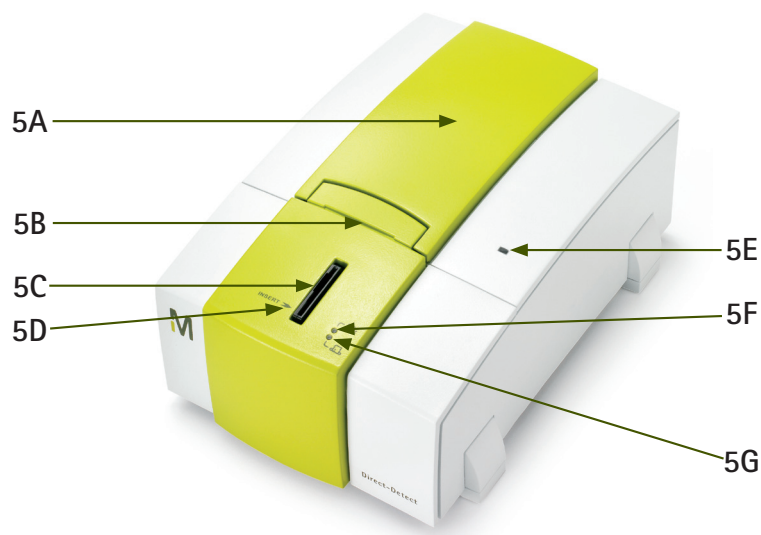

Figure 5. Direct Detect™ spectrometer
1. Place instrument on bench and put Netbook stand on top of instrument. The front tab of the stand fits into the slot on top of the instrument (5B in Figure 5).
The arrow on the bottom right side of the card should be aligned with the arrow on the Direct Detect™ card holder module (5D in Figure 5). Gently release the card and the instrument will accept it for analysis.